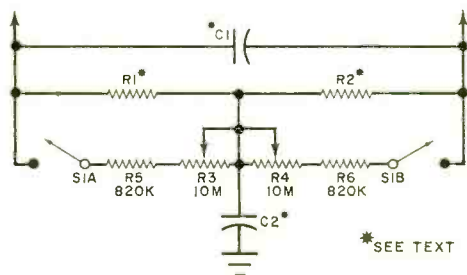

Fig. 1. Modification components to be added to IG-72 circuit are S1 and R3 through R6.
Fig. 1. Operated in avalanche, *Q1* serves as pink noise source. To preserve constant-level signal characteristic of pink noise, *C2* shunts appropriate levels of high frequencies away from earphone.
**Theory of Circuit Design.** As can be seen from the schematic diagram in Fig. 1, the circuit of the Chatter Jammer is very simple. Transistor *Q1* is a silicon type that has a low emitter-to-base breakdown voltage rating. The base-emitter junction is reverse biased by the two series-connected 9-volt batteries that make up *B1*. In this setup, the base-emitter junction is operated in an avalanche condition.
back circuit as shown in Fig. 1. The multiplier (1, 10, 100 and 1000) is determined by the values of capacitors  $C1$  and  $C2$ . The significant figures are selected by the "cycles" switches on the front panel of the instrument. These switches change the resistances of  $R1$  and  $R2$ . For the "tens" range, the values of  $R1$  and  $R2$  are determined by parallel-connected resistors, effectively 100,000 ohms per step. The "units" range values are set by 1-megohm parallel-connected resistors, each of which is selected in discrete increments. Hence, a 4700-Hz signal setting would be the equivalent of four 100,000-ohm and seven 1-megohm resistors in parallel, with a multiplier setting of 100.
Now, the modification in the IG-72 allows you to obtain a continuously variable frequency output by adding a variable resistance in parallel with the resistance selected by the "cycles" switches. With the values given in Fig. 1, a range of 10.82 megohms to 820,000 ohms is available. This has the effect of providing a variable third significant figure that is continuously adjustable between 4709 and 4920 Hz.